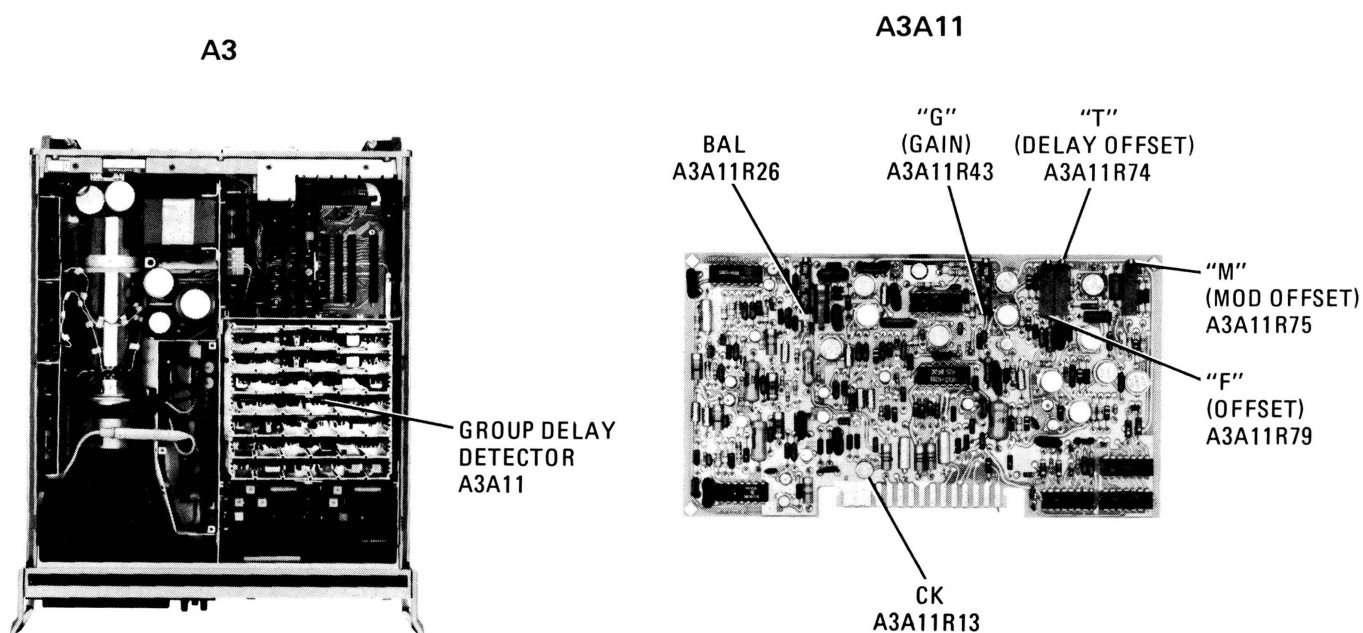

Figure A5-43. A3A11 Group Delay Adjustments Location
- c. Set A2 Frequency Control TRIGGER switch to EXT. Connect Frequency Counter (use a 10:1 scope probe to avoid loading circuit) to the Collector of Q13 and adjust "CK" 100 KHz clock control A3A11R13 (Figure A5-43) for 100 KHz \pm 10 Hz (period of 10 μ s). If the range on the control is not enough to reach 100 KHz, select a value of A3A11R12 in the range of 10K to 40K that allows adjustment to 100 KHz.